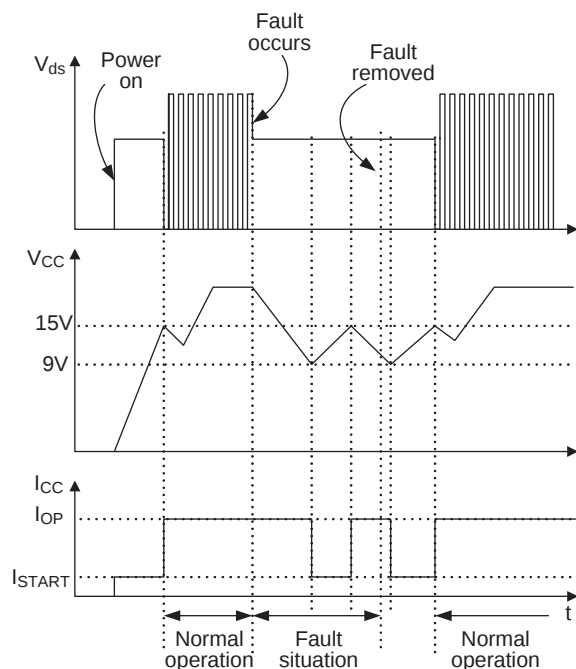

Figure 12. Auto Restart Mode Protection
– **Auto-restart mode protection:** Once the fault condition is detected, switching is terminated and the SenseFET remains off. This causes V_{CC} to fall. When V_{CC} falls to the under voltage lockout (UVLO) stop voltage of 9V, the protection is reset and the FSCQ-Series consumes only startup current (25μA). Then, the V_{CC} capacitor is charged up, since the current supplied through the startup resistor is larger than the current that the FPS consumes. When V_{CC} reaches the start voltage of 15V, the FSCQ-Series resumes its normal operation. If the fault condition is not removed, the SenseFET remains off and V_{CC} drops to stop voltage again. In this manner, the auto-restart can alternately enable and disable the switching of the power SenseFET until the fault condition is eliminated (see Figure 12).